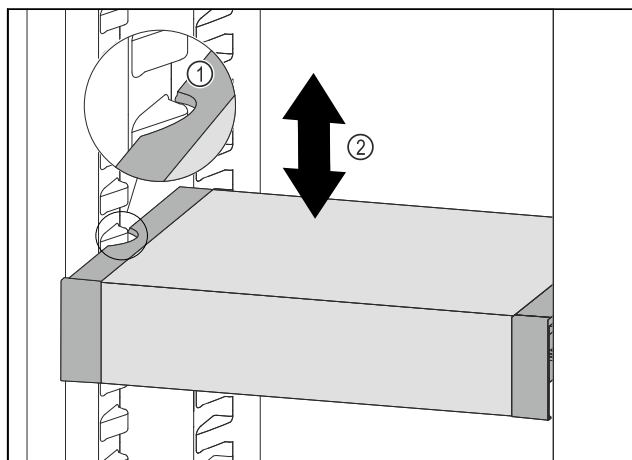

Fig. 99
- Pull VarioSafe forwards until the recesses in the side of the VarioSafe are at the level of the support rib in the refrigerator compartment. *Fig. 99 (1)*
- Move VarioSafe up or down in the refrigerator compartment until the desired height is reached. *Fig. 99 (2)*